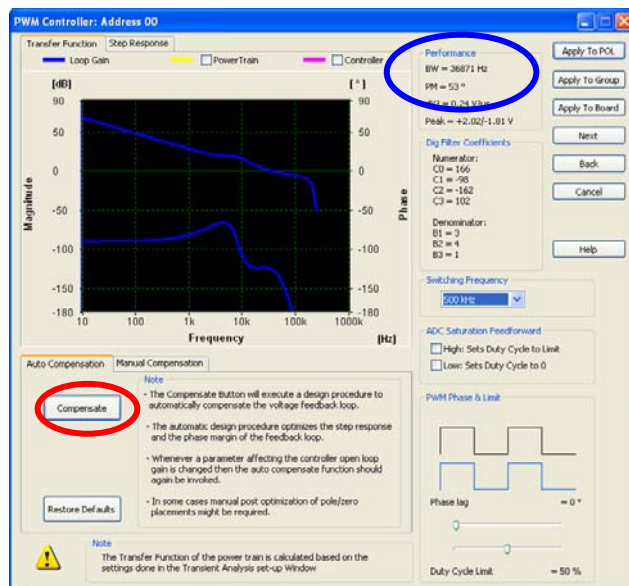

Figure 13. Red: Auto-Compensate button in the PWM Controller window. Blue: Bandwidth and Phase margin.
5.) Using the GUI's PWM Controller window, perform an auto-compensation or manually adjust compensation to get the desired crossover frequency (bandwidth) and a phase margin of at least 45 degrees. See Figure 13. If the desired bandwidth can not be obtained, iterate the design using the attained bandwidth.